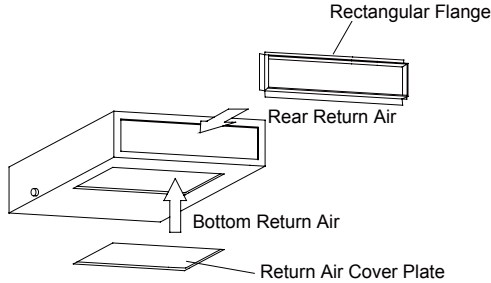

Fig.37
(2). The default installation location of the rectangular flange is at the back, as shown in Fig.37.